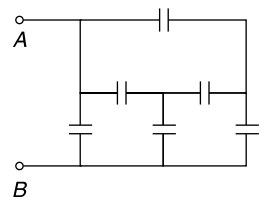

Fig. 2.69
30. If each of the capacitances is C , find the equivalent capacitance between A and B (Fig. 2.69).